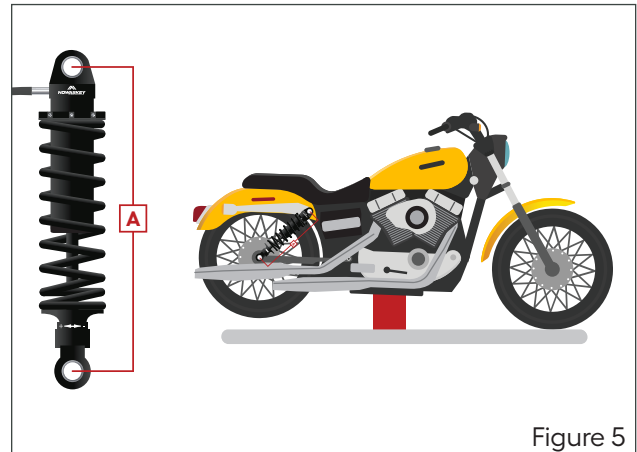

Figure 5
- Install the shocks and tighten the mounting bolts to 70 ft-lbs (Figure 5).
1. Elevate the rear tire and measure the distance between the center of each mounting bolt (Figure 5). **This is measurement "A".**